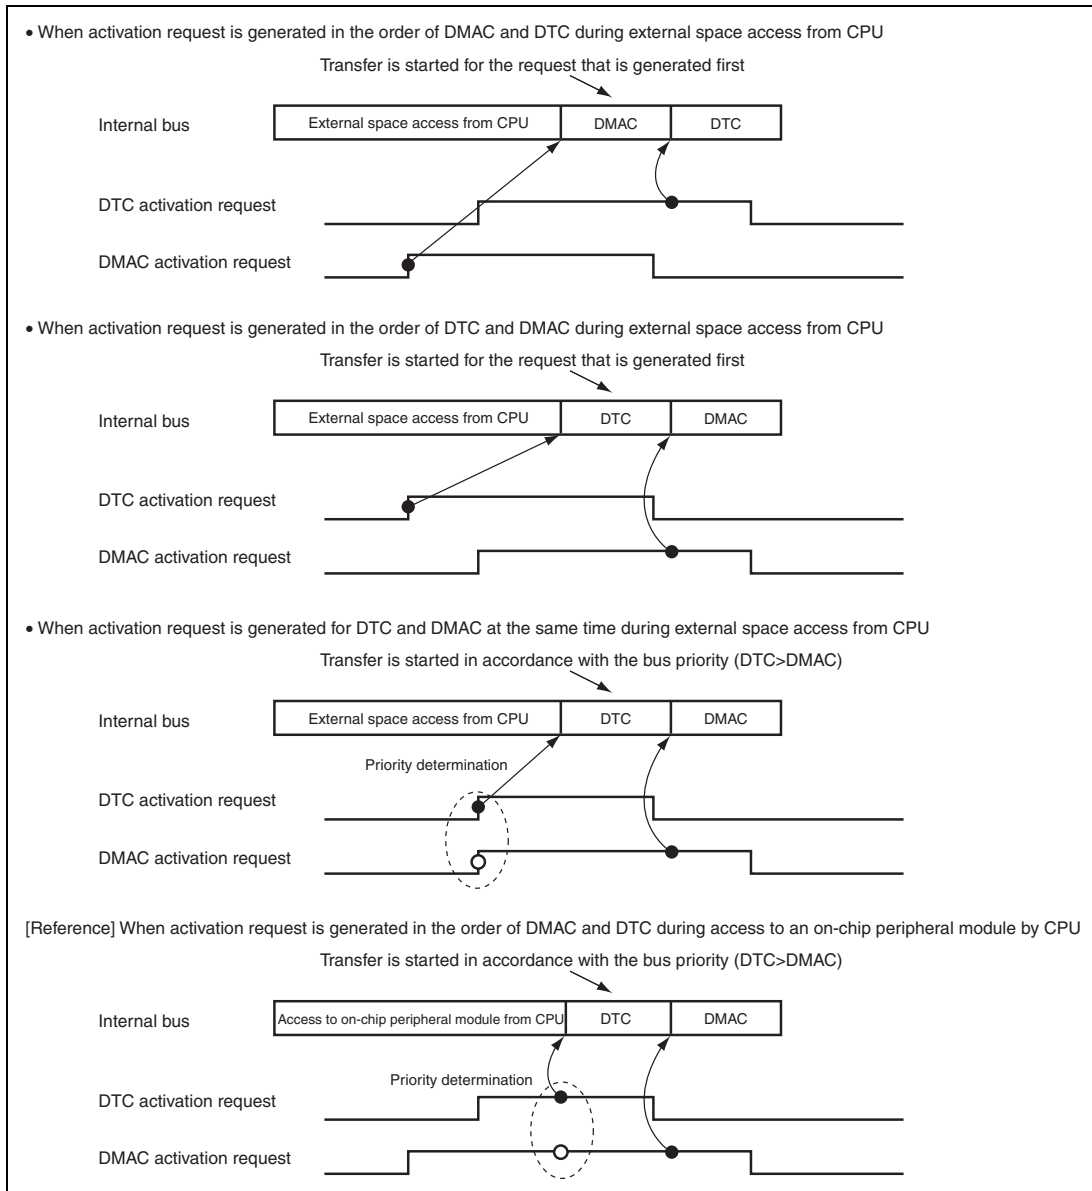

Figure 9.50 Bus Arbitration when DTC and DMAC Compete during External Space Access from CPU
2. When an activation request is generated in the order of DMAC and DTC while an external space is being accessed by the CPU, DMA transfer is executed first and then DTC transfer. Figure 9.50 shows the bus arbitration when the DTC and DMAC compete while an external space is accessed by the CPU.